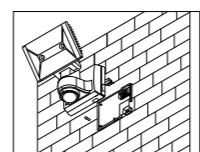

Fig. 2
- 3.2.1** The product is to be mounted on wall. Ensure that the product is screwed securely to the wall. (Fig. 2)